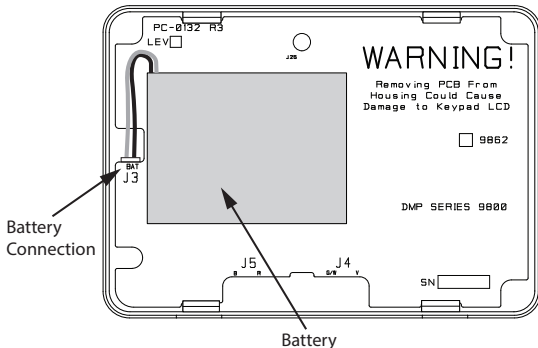

Figure 7: Replace the Battery
4. Place the new battery (DMP Model 9800BAT) on the keypad PCB using double-sided sticky tape. See Figure 7.